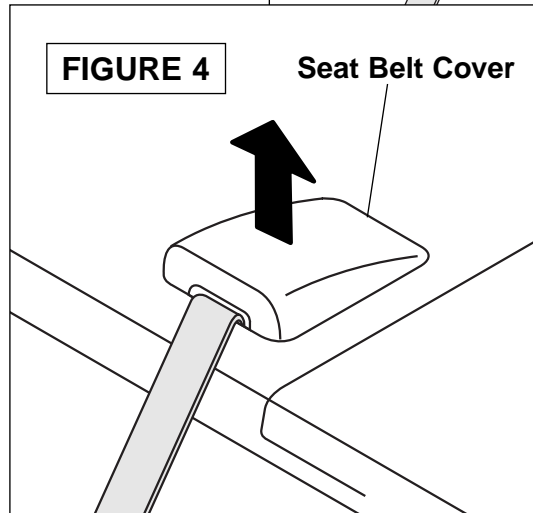

FIGURE 5
5. Remove two (2) 14mm bolts from **seat belt guide** on **passenger's rear side panel**. Remove guide (with belt) and lay aside (Figure 5).
6. Pry open **screw cover** behind **grab handle** and remove one (1) phillips screw from opening.
7. Remove one (1) push pin **retaining clip** from rear side panel located near wheel well.
8. Pry up **seat lock trim ring** and remove (Figure 5).